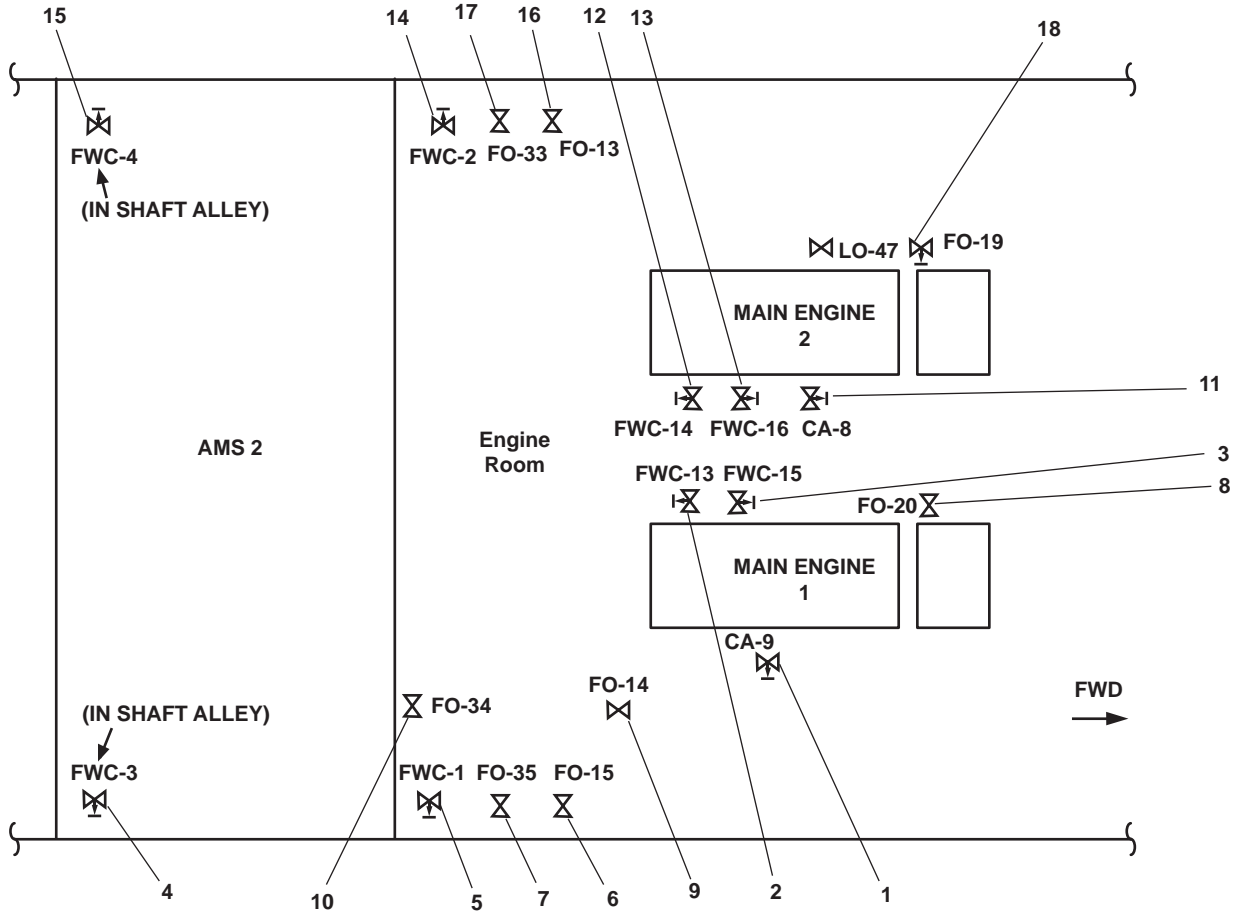

Figure 3. Main Engine Valves
- d. Fwc-3, F.W. FR. M.E. No. 1 TO KEEL CLR. (figure 3, item 4)
- e. Fwc-1, F.W. FR. KEEL CLR TO M.E. N0. 1 (figure 3, item 5)
- f. FO-15, F.O. SERV. SUCT. STBD (figure 3, item 6)
- g. FO-35, F.O. RTN TO DAY TK. STBD (figure 3, item 7)
- h. FO-20, F.O. SPLY TO STBD ME No. 1 (figure 3, item 8)
- i. FO-14, F.O. SERV CRSVR (figure 3, item 9)
- j. FO-34, F.O. RTN CRSVR (figure 3, item 10)
- a. CA-8, STG AIR TO ME #2 (figure 3, item 11).
- b. Fwc-14, F.W. FR. RED. GEAR No. 2 TO KEEL CLR (figure 3, item 12)
- c. Fwc-16, F.W. FR. KEEL CLR TO RED. GEAR No. 2 (figure 3, item 13)
- d. Fwc-2, F.W. FR. KEEL CLR TO M.E. No 2 (figure 3, item 14)